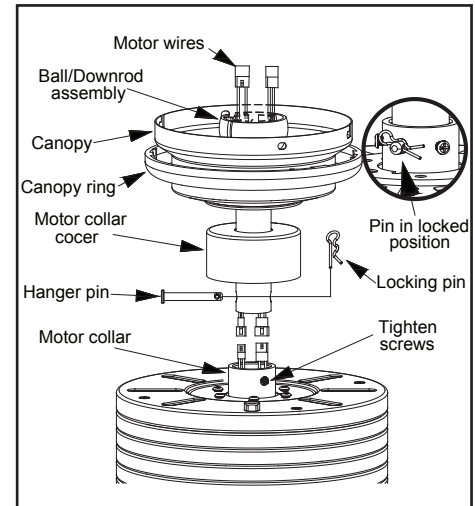

Figure 7
4. Place downrod over canopy and canopy ring, slide the motor collar cover onto the downrod. Connect the extension lead wires to the lead wires from motor. Make sure the quick connectors are clasped firmly. Route the wires through the ball/downrod assembly. (Figure 7)
6. Align the holes at the bottom of the downrod with the holes in the collar on top of the motor housing. (Figure 7) Carefully insert the hanger pin through the holes in the collar and downrod. Be careful not to jam the hanger pin against the wiring inside the downrod. Insert the locking pin through the hole near the end of the bolt until it snaps into its locked position, as noted in the circle inset of Figure 7.